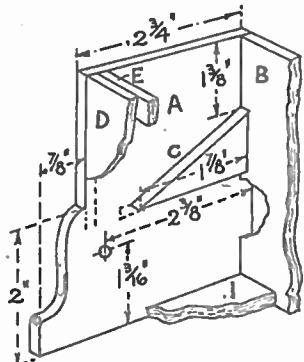

Fig. 3—Details of the sides
Two sides (A) must first be outlined on the wood and cut with a fine fretsaw. The measurements for draughting the outline are given in Fig. 3. Having outlined and cut one side, clean it up and lay it on a second piece of wood,